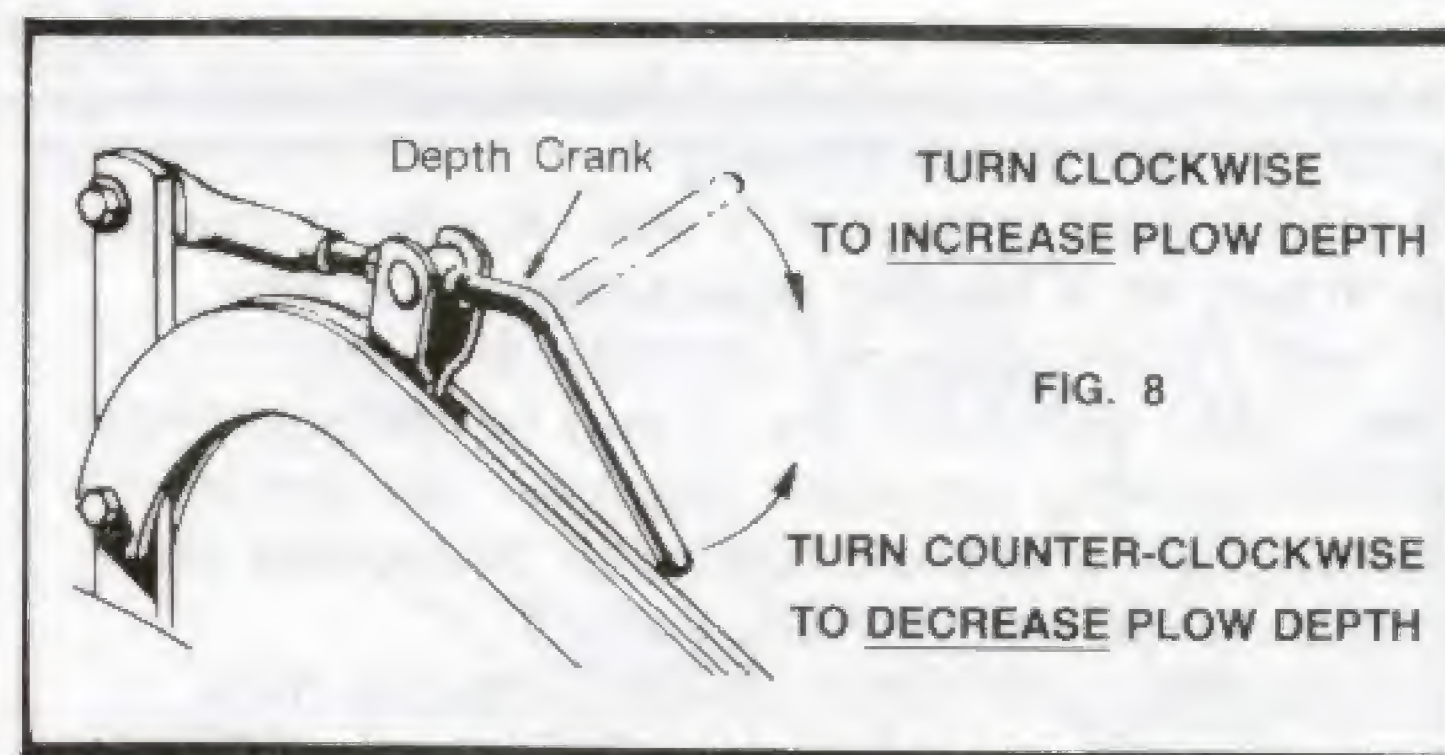

FIG. 8
- If your Plow is not plowing at 4" to 5" deep on your initial two passes, readjust the Plow Depth Crank by turning it clockwise (↻) to go deeper or counter-clockwise (↻) to go shallower. (See Fig. 8) Make this adjustment ONE TURN at a time until desired depth is obtained.
Refer to Fig. 8